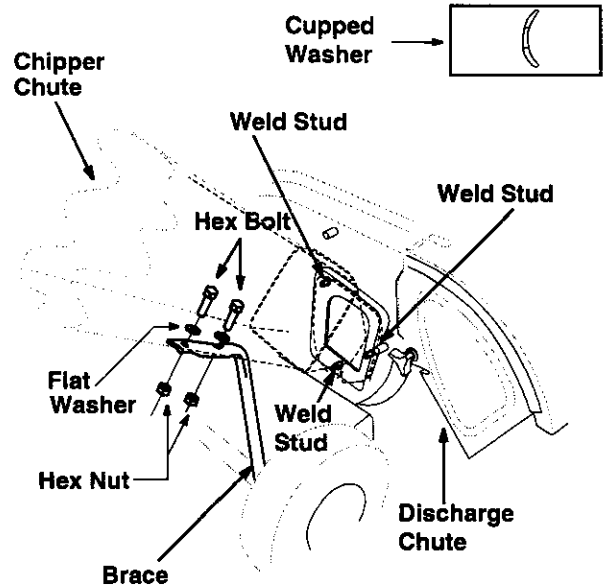

Figure 7
- Remove the three cupped washers and hex nuts from the weld studs beside the opening on the left side of the housing. See figure 7.
- Remove the two sets of hex bolt, lock nut, and flat washer from the two holes on the upper end of the brace as shown in figure 7.
- Align the holes towards the front opening of the chute with the holes on the brace. See figure 7.